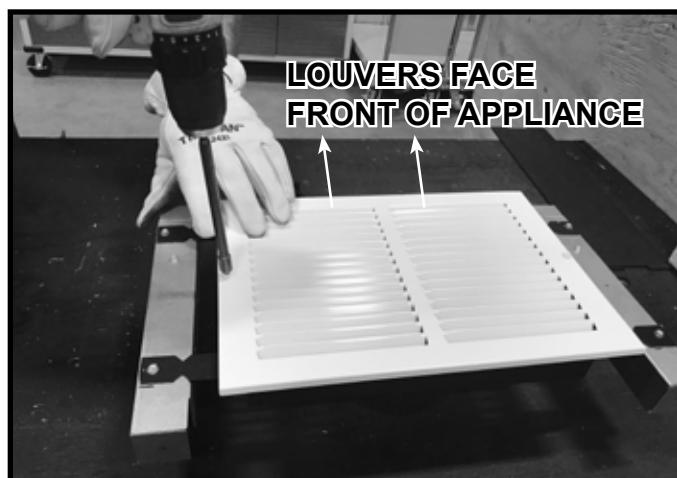

Figure 8.14 Louvers Face Front of Appliance
9. Mount the 12 inch x 8 inch register cover to the discharge assemblies register cover tabs using the screws provided with the cover. See Figure 8.14.